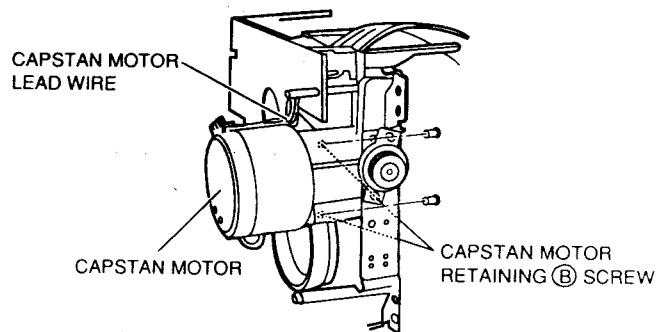

Fig. 3-6
- 1) Remove the CAPSTAN MOTOR RETAINING Ⓑ SCREWS. (refer illustration Fig. 3-6)